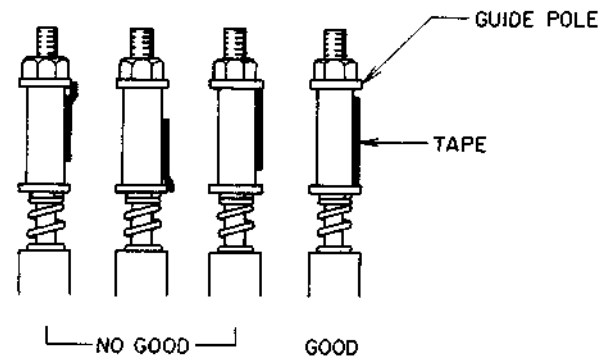

Fig. 7-2
(Refer to Fig. 7-2)
- 2) Make adjustment with the supply guide height adjustment nut, so that the lower part of the tape will pass the lower part of the guide pole without curling as shown in Fig. 7-2.